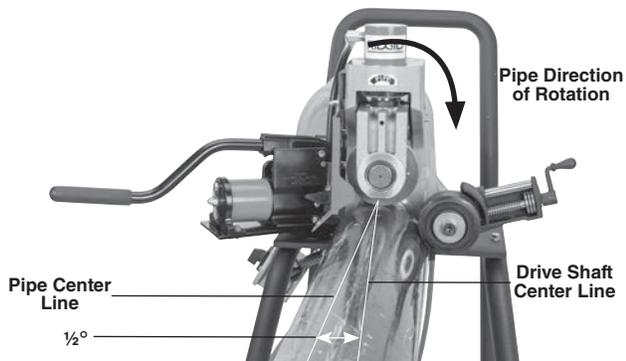

Figure 13 – Offsetting the Pipe $\frac{1}{2}^\circ$, (Exaggerated)
7. Slightly offset the pipe and pipe stands approximately $\frac{1}{2}$ degree (about 1" over at 10 feet from the roll groover) towards the operator. Proper alignment of the pipe and roll groover helps to ensure proper tracking of the pipe while grooving (See Figure 13). This is proper offset for grooving and works with the stabilizer.